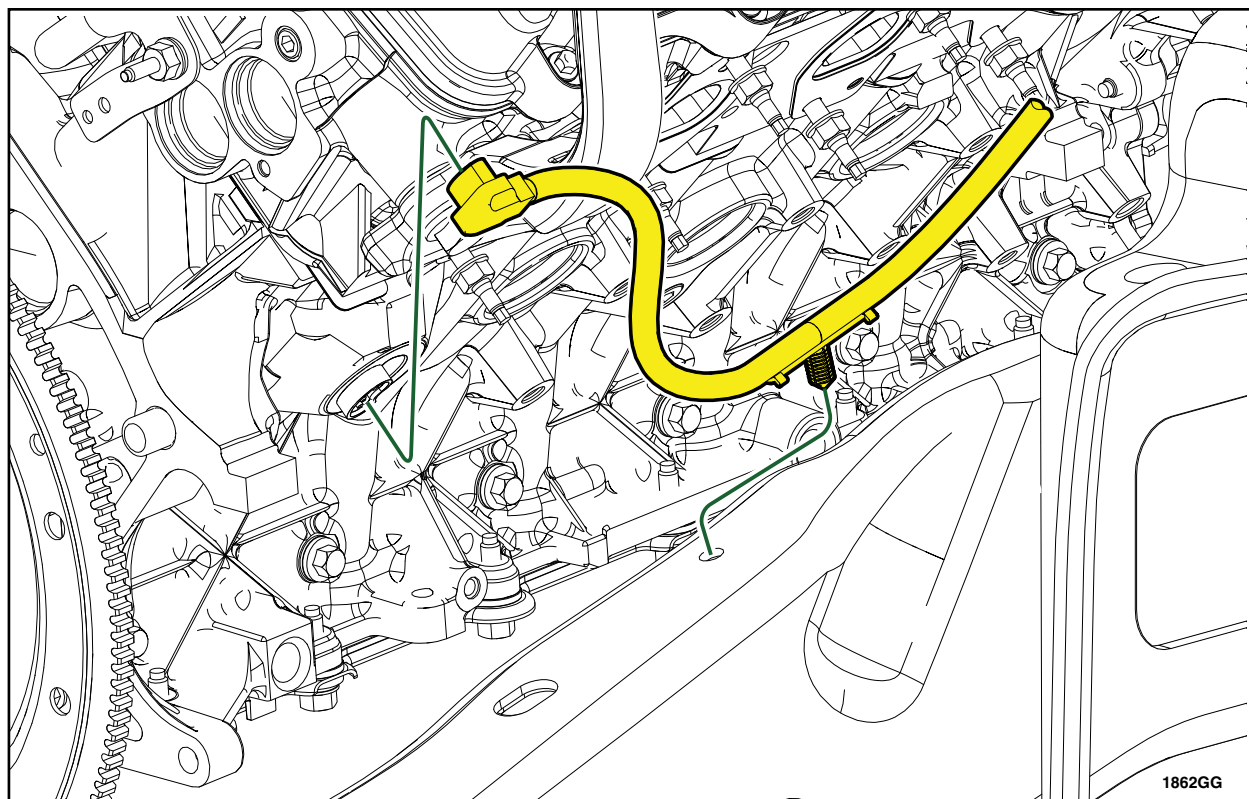

FIGURE 6a
2. Remove and discard the wire assembly. See Figures 6a, 6a and 6c.
5. Install the *new* wire assembly in the vehicle following the same routing as the wire assembly that is being replaced. See Figures 6a, 6b and 6c.